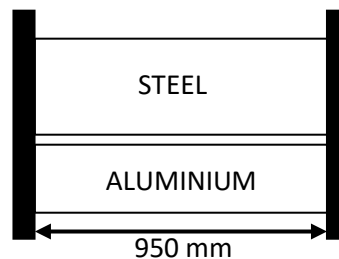

Figure 1 (c)/ *Rajah 1 (c)*
- (c) Figure 1(c) below shows a compound bar rigidly mounted at both end. Cross sectional area for steel and aluminium bar are 400 mm^2 and 335 mm^2 . If the temperature is dropped by 23°C . Calculate: